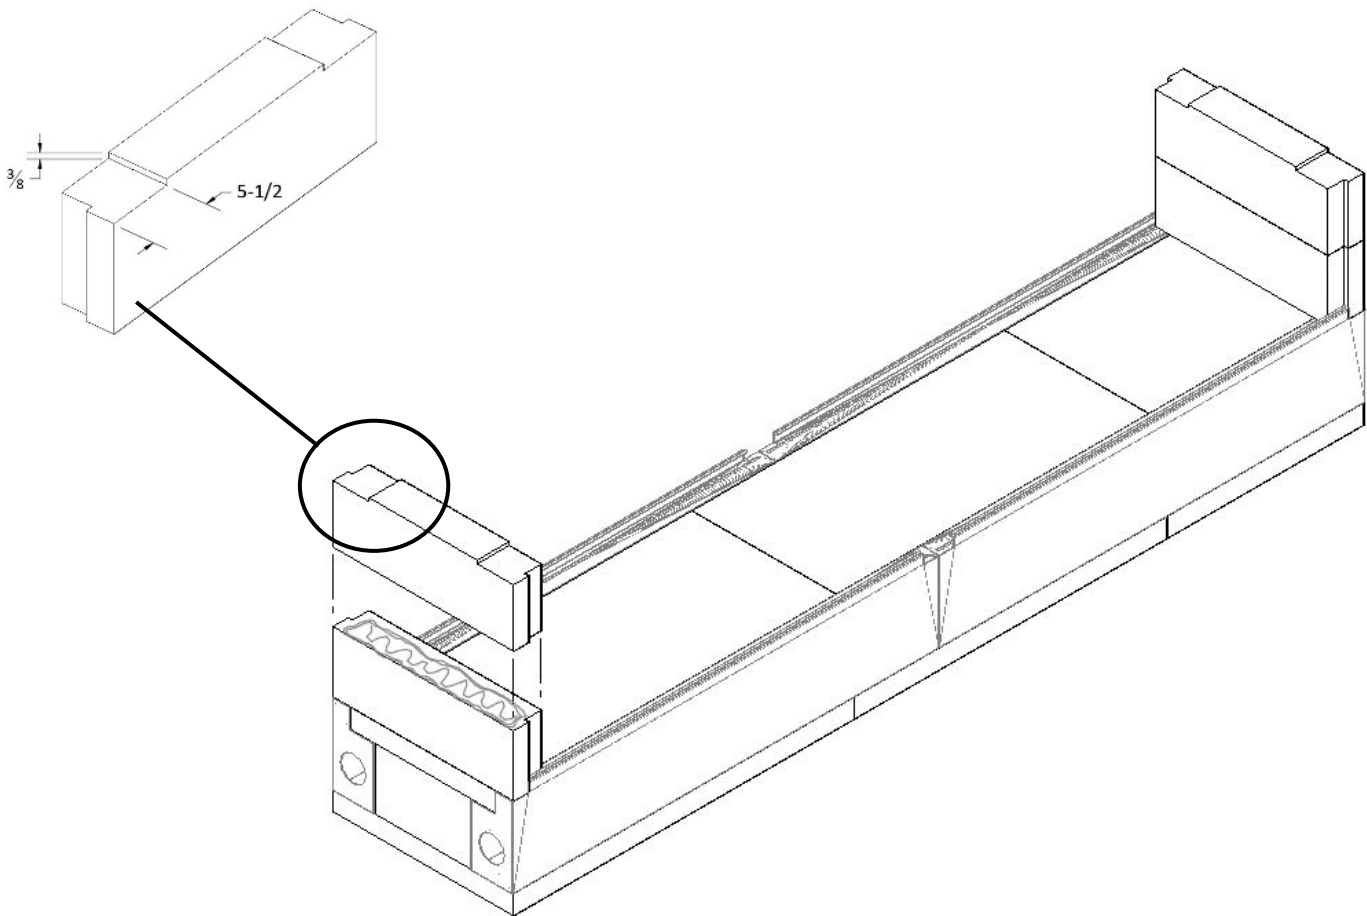

FIGURE 12
5) Continue assembly of the consecutive courses of the firebox side walls. Apply Earthcore Adhesive to the top of each layer of side wall components before setting the next course in place (**Figure 12**). Look for some Earthcore Adhesive to squeeze out along the joints of all contact surfaces as a sign that the joint is thoroughly sealed with the approved Earthcore Adhesive.